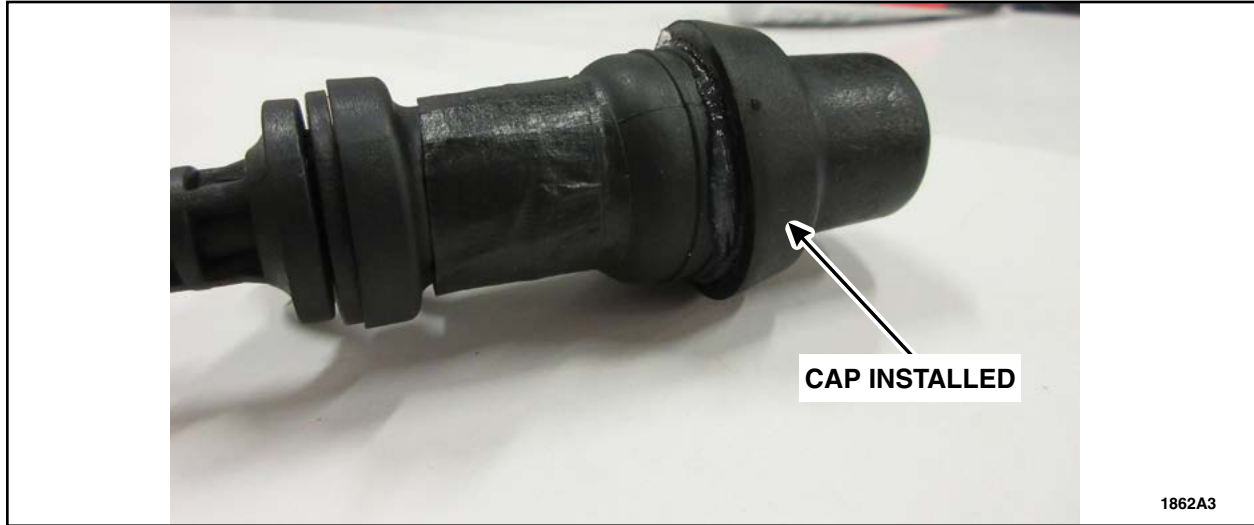

FIGURE 21
3. Install the cap back onto the block heater cable plug end. See Figure 21.